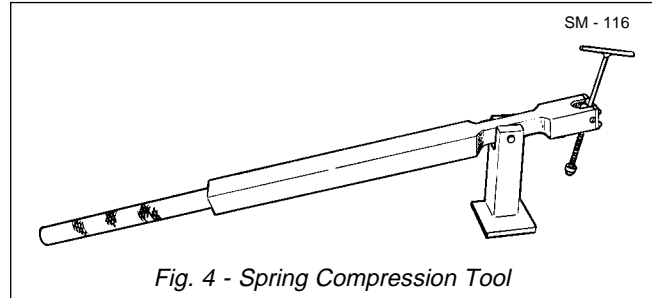
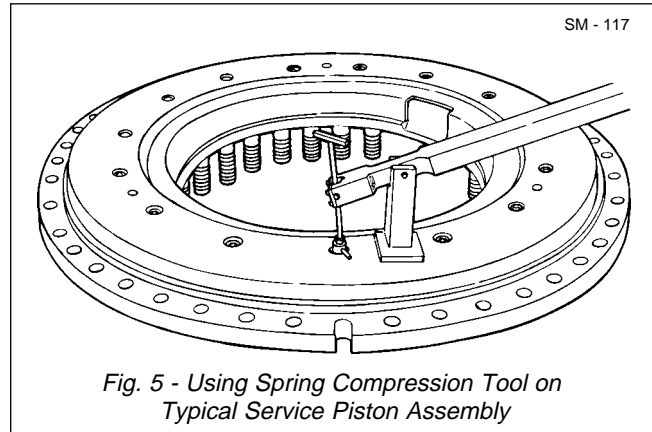

Fig. 4 - Spring Compression Tool
Fig. 5 - Using Spring Compression Tool on Typical Service Piston Assembly
11. Very carefully, remove socket head screws (45) and hardened washers (44), by turning screws out alternately, one turn at a time on each screw. Piston housing assembly (41) is under spring (20 & 21) compression. Using a suitable lifting device, lift piston housing assembly (41) from disc housing (25) and place on a flat surface, service piston (31) side up.
12. Remove and discard 'O' ring (37) from piston housing assembly (41).
13. Remove and discard 'O' rings (40) from piston housing assembly (41).
14. Using spring compression tool (shown in Fig. 4), screw the 'T' handle of the tool into the threaded hole in the end of one retaining pin (35), see Fig. 5.